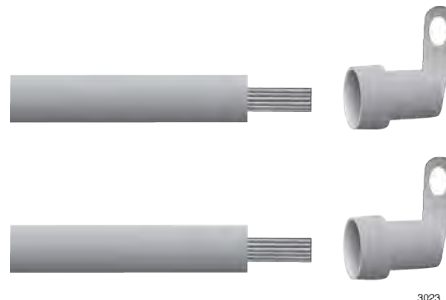

Figure 144. Attaching the Power Wires to the Right Angle Terminals
3. Insert the power wires into the right angle terminals included with the power supply and use a crimping tool to secure the wires to the terminals. See Figure 144,